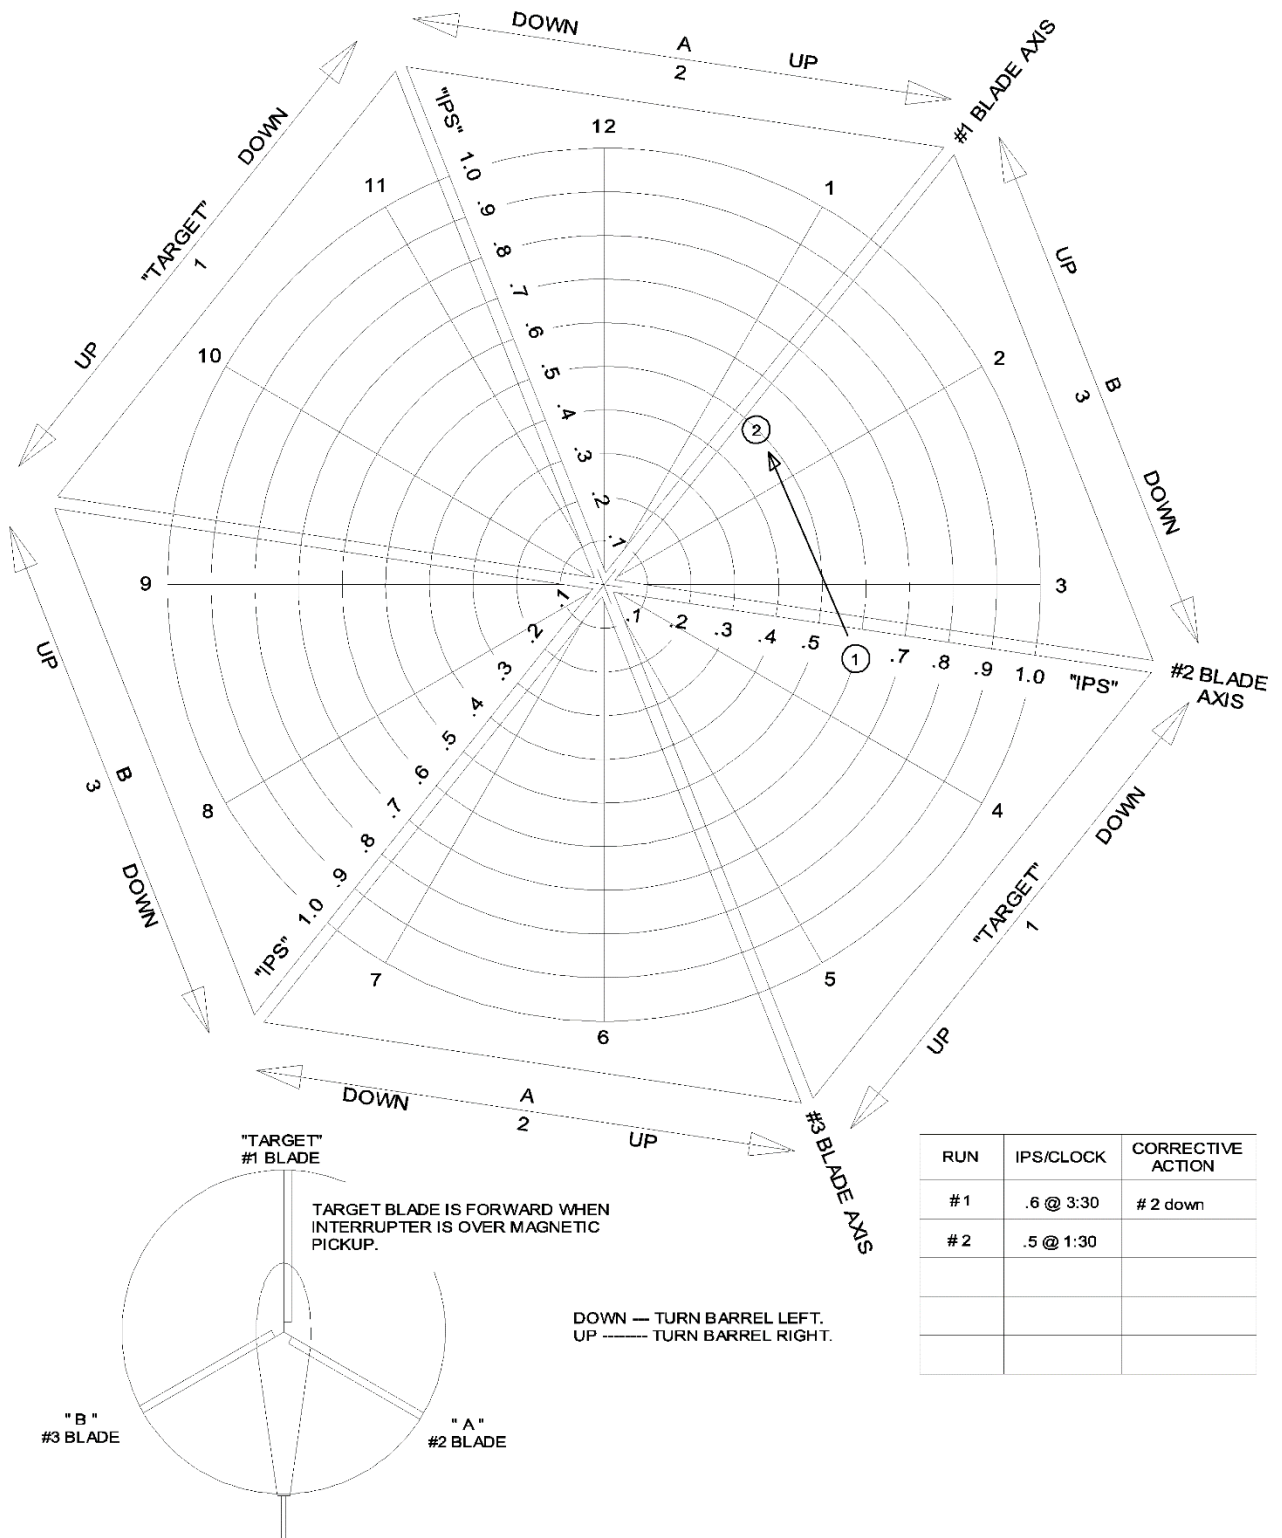

Figure 12-6.1. Main Rotor Clock Angle Correction Example
- (2) #2 blade is adjusted approximately 1/3 flat down. A reading of .5 ips at a clock angle of 1:30 for the second hover run is plotted (Figure 12-6.1). Clearly, the adjustment did not produce the expected move on the polar chart. This indicates that the polar chart is not correctly aligned to the helicopter.